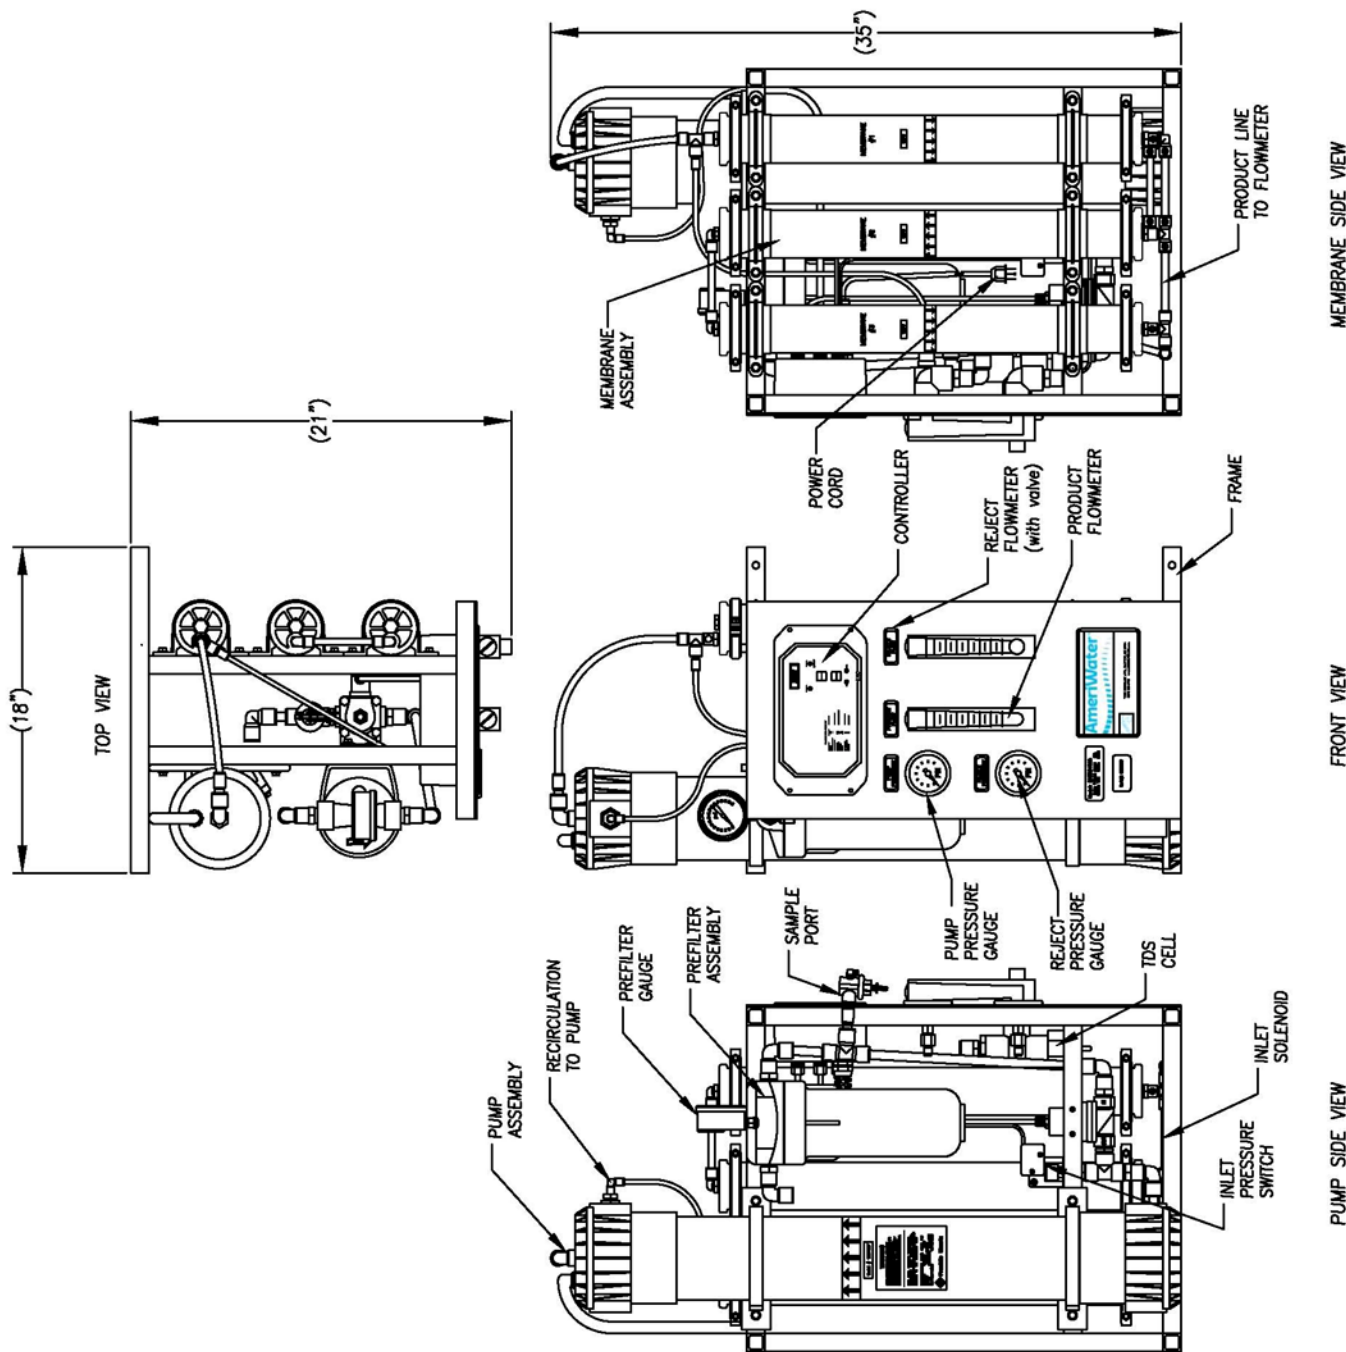

Figure 9
3. Drain water from system. Open all plugs. Disconnect all joints. Save all plugs and O-rings / gaskets (**Figure 9**).
4. Gages – Because gages are liquid filled. Remove from RO, Storage Tank and from Endotoxin Filter. Store in an area above 34 degrees F. Gages are located on face plate of the RO and top of the Pre filter housing, Return on the Storage Tank and the inlet and outlet of Endotoxin filter (**Figure 9**).
5. Membranes – Remove membranes from housings and discard. Disconnect joints to membrane. Remove all water pooling in any joints. Remove any connection that will not allow water to free flow out of it. Uncouple the product line and drain all water. Remove any fitting that will not allow water to flow freely out of it (**Figure 9**).